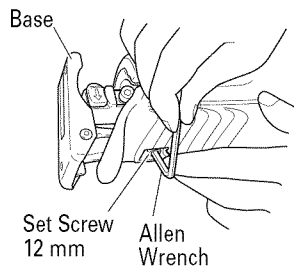
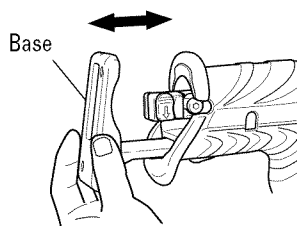

Fig. 13
Fig. 14
- (2) If a base setting screw is loosened with an attached allen wrench, you can adjust a base installing position. (Fig. 13, Fig. 14)